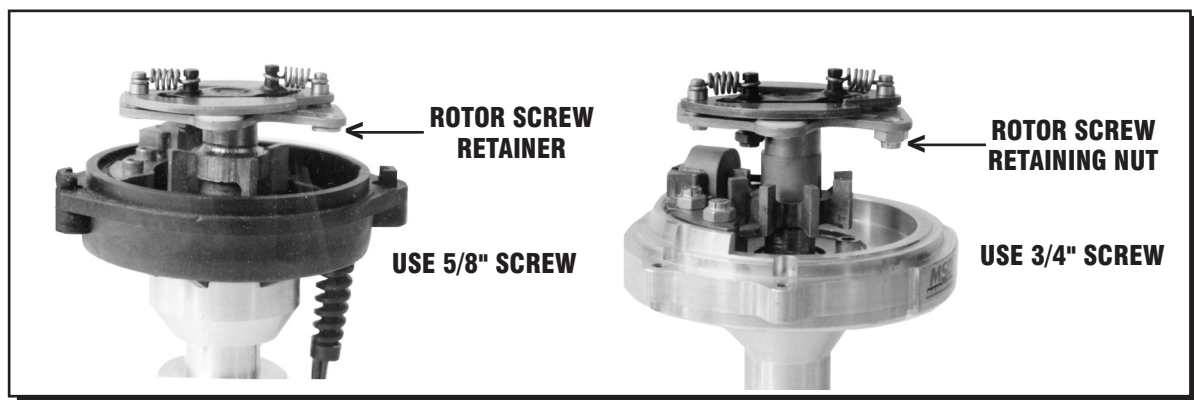

Figure 2 Determining Rotor Screw Length.
4. Before installing the rotor base, determine which length rotor screws are needed for your distributor. Figure 2 shows the two different rotor screw retainers offered on different MSD distributors.